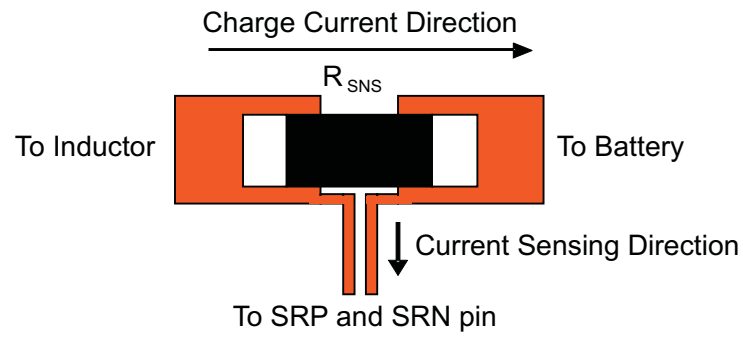

Figure 25. Sensing Resistor PCB Layout
4. The charging current sensing resistor should be placed right next to the inductor output. Route the sense leads connected across the sensing resistor back to the IC in the same layer, close to each other (minimize loop area) and do not route the sense leads through a high-current path (see Figure 25 for Kelvin connection for best current accuracy). Place decoupling capacitor on these traces next to the IC.